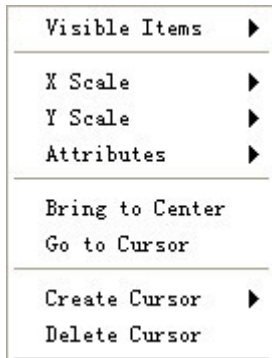

Figure 13-1 Free Marker Menu
- After a "Free" marker is created, select and right-click the name of this marker in the marker setting area; the free marker menu is displayed as shown in Figure 13-1.